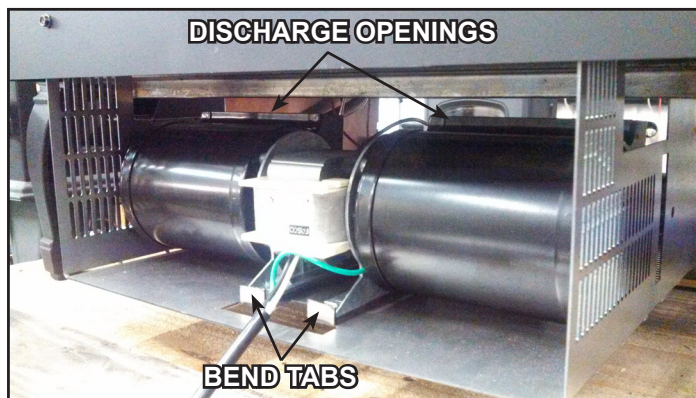

Figure 8.4 - Fan Housing
2. From the rear of the appliance, slide the fan into the fan housing with the magnetic strips down and the rear discharge openings towards the front of the stove. (Note: The magnetic strips should straddle the gas line.) Bend tabs upward approximately 45 degrees. See Figure 8.4. It may be necessary to remove the on/off switch wires from the zip tie that holds the gas line as well as from the wire clasp located on the side of the fan housing in order to insert the fan without interference.
1. From the rear of the appliance, slide the fan into the fan housing with the magnetic strips down and the rear discharge openings towards the front of the stove. (Note: The magnetic strips should straddle the gas line.) Bend tabs upward approximately 45 degrees. See Figure 8.4. It may be necessary to remove the on/off switch wires from the zip tie that holds the gas line as well as from the wire clasp located on the side of the fan housing in order to insert the fan without interference.